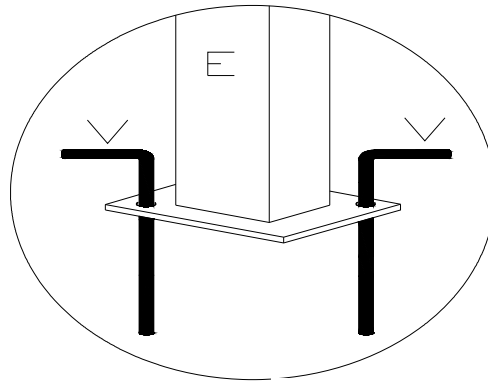

Fig. 13
Affix the Gazebo to the ground by inserting the Stake(V) through the Post(E) bases. (See Fig.13)